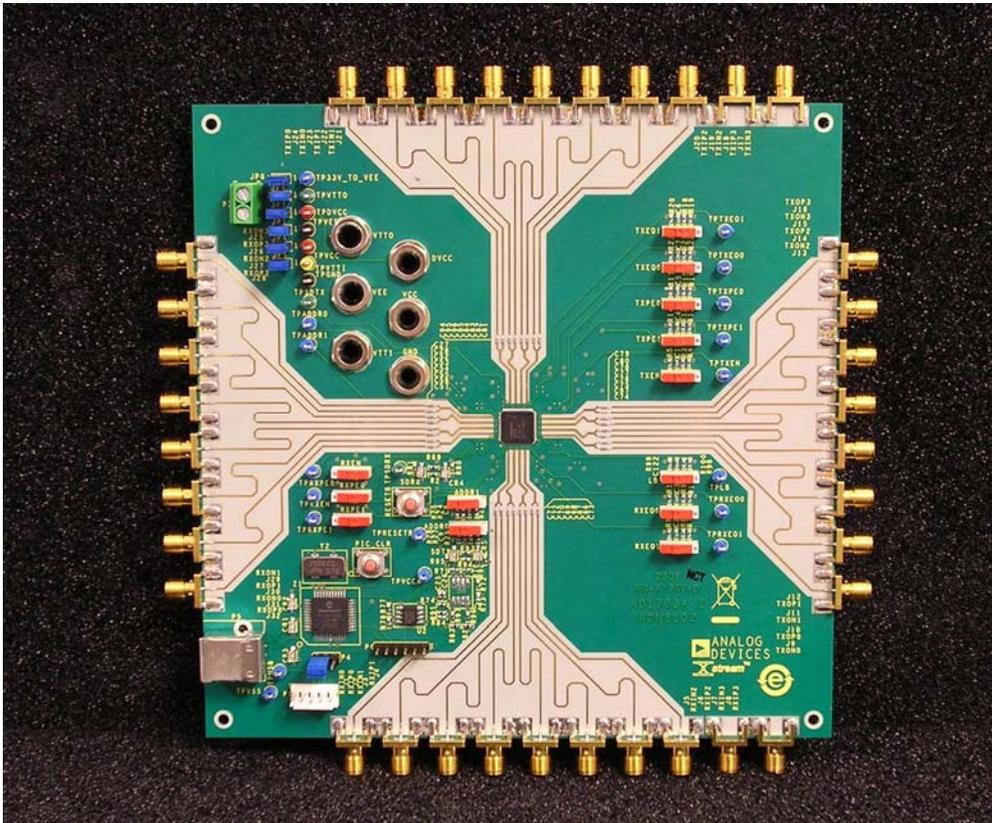

Fig.1 Factory default settings of ADN4600 evaluation board switches.
2. Connect IN0 (J1) and IP0 (J2) (two SMA connectors at bottom of the board shown in Fig.1) to a pattern generator and apply a PRBS signal. It is important to use a pair of matched length, 50Ω cables;
3. Connect ON0 (J31) and OP0 (J32) (two SMA connectors at bottom left side of the board shown in Fig.1) to an oscilloscope using a pair of matched length, 50Ω cables;